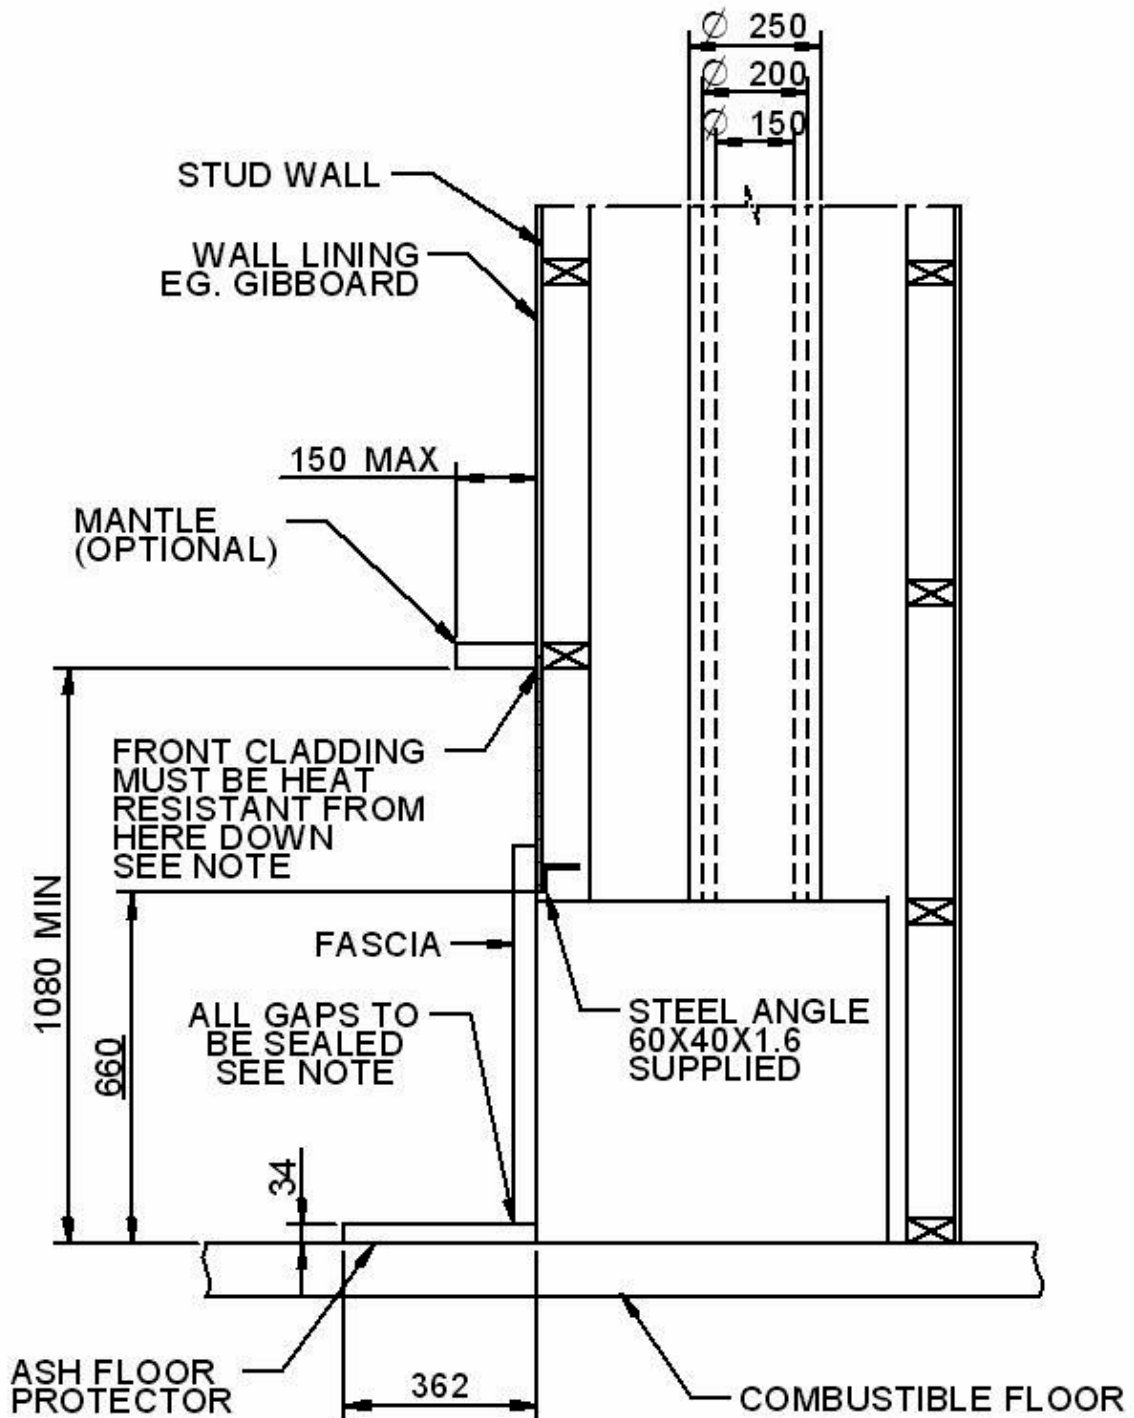

Fig. 6
7. For heat sensitive floors, construct an **ash floor protector** of the shape shown in the Floor Plan above. (see below for concrete floors). The standard ash floor protector is constructed of one layer of 6mm thick Hardies TILE & SLATE UNDERLAY or similar, topped with a layer of tiles or slate. This will give a thickness of approximately 16mm, and the extension from the face of the front cladding must be at least 362mm. The floor protector must be at least 900mm wide. It is desirable to carry the floor protector all the way inside the enclosure to ensure that the bottom of the shielding box does not rest below the top surface of the floor protector. Alternatively you can build a thicker floor protector in front of the fire only. See Fig. 6.
Now you should fit the Z/C fascia infill panel to the bottom panel of the fire cabinet with 3 only black 8 gauge screws unless you have a 34mm thick floor protector as shown in fig. 6, then this panel is not needed. This infill panel is shipped with the Z/C enclosure, not with the fascia.